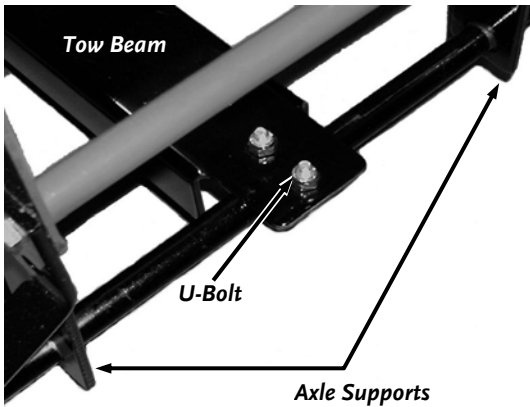

Figure 5
1. Place the Tow Beam on top of and in the center of the Axle between the Axle Supports. Put the U-Bolt around the Axle from underneath and up through the two holes on the Tow Beam (**Figure 5**). Install two 1/4"- 20 Lock Nuts on the U-Bolt with a 7/16" Wrench but do not tighten.